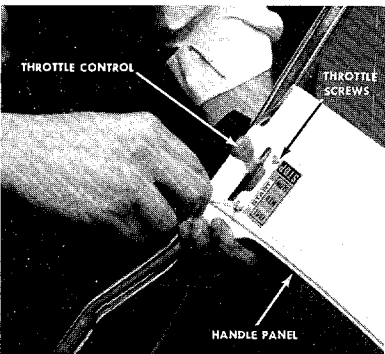

FIGURE 6. THROTTLE CONTROL ASSEMBLY
7. Place the throttle control in the handle panel and assemble it with the two throttle screws using a screwdriver. See figure 6.